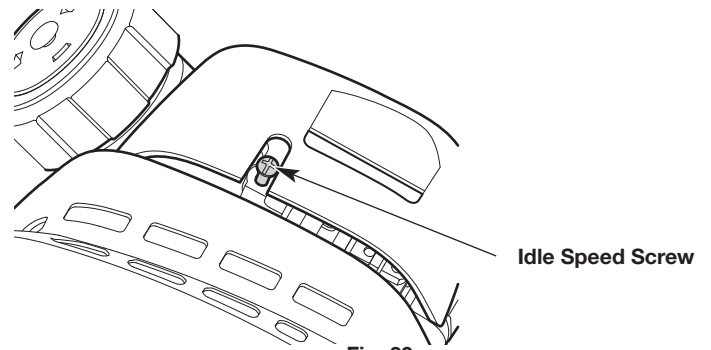

Fig. 39
- If the engine stops, increase the idle speed. Use a small Phillips screwdriver to turn the idle speed screw clockwise, 1/8 of a turn at a time, until the engine idles smoothly (Fig. 39).
- If the cutting head spins when the engine idles, reduce the idle speed. Turn the idle speed screw counterclockwise, 1/8 of a turn at a time, until the cutting head stops moving (Fig. 39).